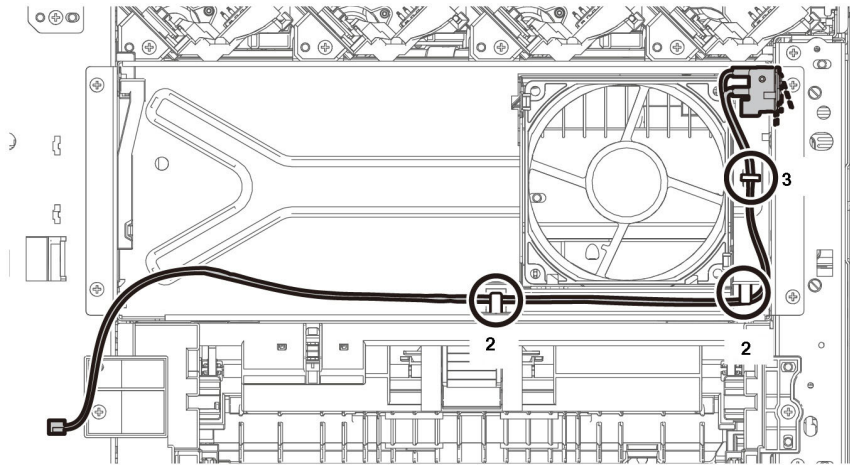

Figure 2 Side interlock harness
- c. Release the side I/L harness assembly from the sub fan duct (2), then remove the side I/L harness assembly from one push-tie (3) of the sub fan duct, Figure 2.